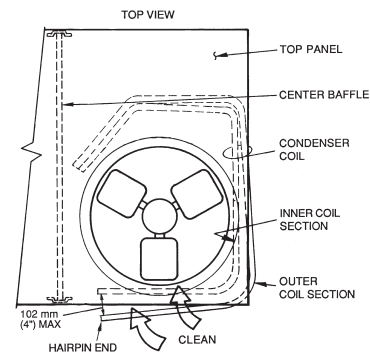

Fig. 14 – Separating Coil Sections
7. Remove the fasteners holding the coil sections together at the return end of the condenser coil. Carefully separate the outer coil section 3 to 4 in. from the inner coil section. See Fig. 14.